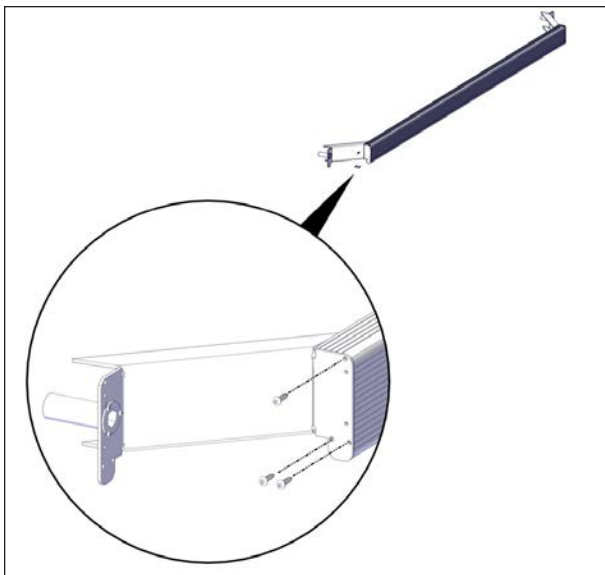
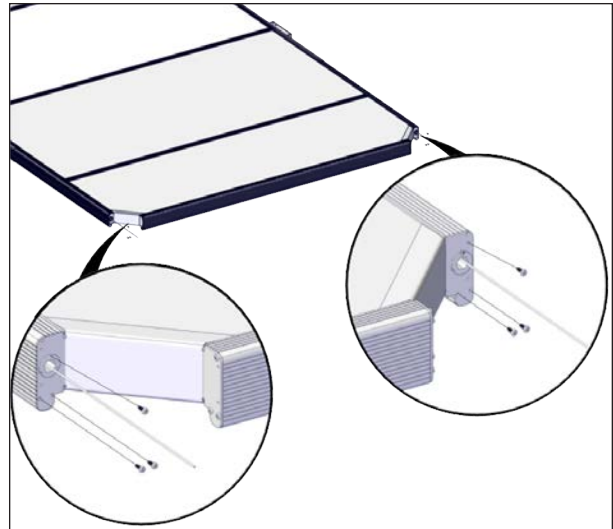

FIGURE 56: CORNER BRACKET SUPPORT INSTALLATION
FIGURE 57: END C-CHANNEL INSTALLATION
2. Install the left and right corner bracket supports on each end C-channel by using a #2 square screwdriver and the #8 X 1/2" screw, see Figure 56.
Figure 56 and Figure 57 display the proper orientation of the left and right brackets.
3. Take the assemblies made at the previous step (Figure 56) and slide them on the edge panels (Figure 57) located on each side of the cover. Make sure that the wire passes
4. Use a #2 square screwdriver to secure the corner bracket on the C-channel end by using the #8 X 1/2" screws (Figure 57).